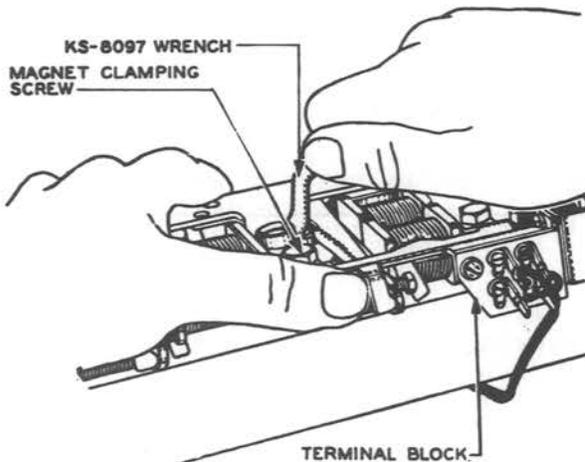

Fig. 7 - Method of Loosening Magnet Clamping Screw
3.11 Remove the magnet clamping screws with the KS-8097 wrench as shown in Fig. 7. On some earlier clutches it will be necessary to use the Williams superrench to loosen the magnet clamping screws. Substitute the new part and retighten the magnet clamping screws just sufficiently to hold the magnets in position.
3.16 Spread the wires that lie close to the heads of the magnet clamping screws which hold the cable support to the clutch frame. Remove these screws with the KS-8097 wrench as shown in Fig. 7. On some earlier clutches, it will be necessary to use the Williams superrench to loosen the magnet clamping screws. Then lift out the cable support, taking care not to damage the wires of the clutch local cable form.